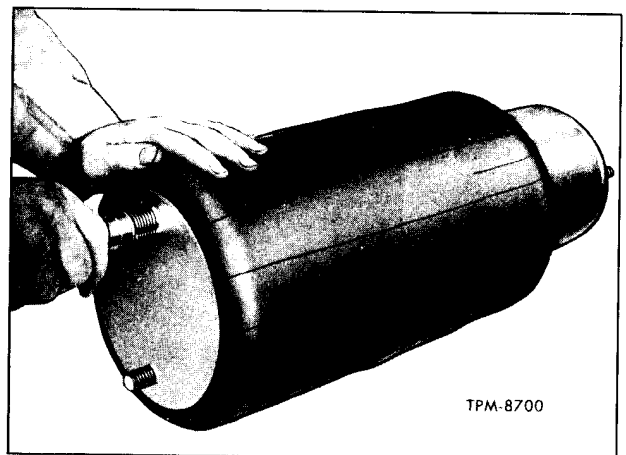

Figure 20—Seating Retainers in Bellows With Air Pressure
3. Apply air in bellows through opening in upper retainer stud (fig. 20) to seat lower and upper retainers in bellows.